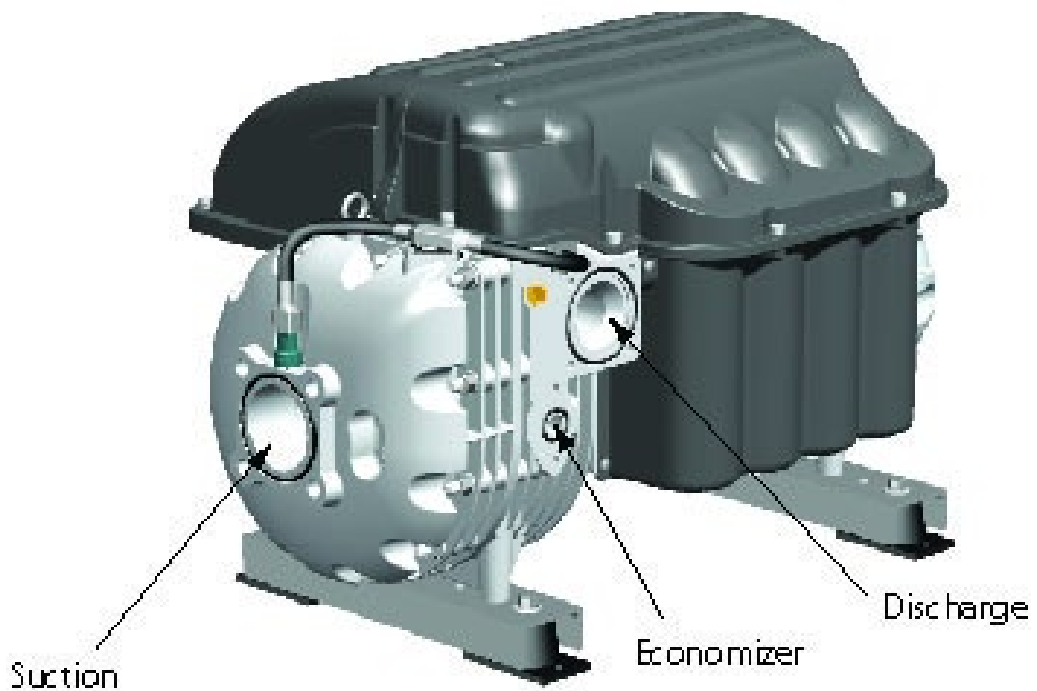

Figure 1
7. Align the suction valve/flange with the compressor suction port (see Figure 1) and insert the four hex head screws. Finger-tighten the screws and then torque, in a diagonal pattern, to 30 Nm (22.1 ft.lb.).